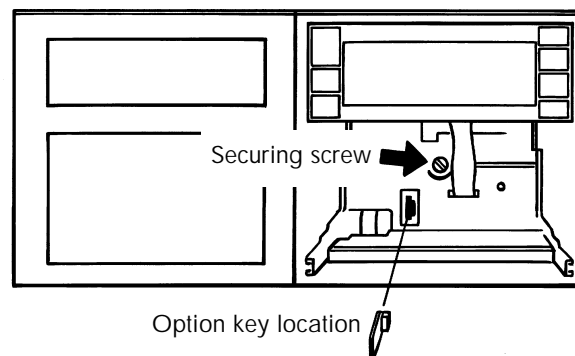

Figure 2 Option key and securing screw locations
3. With reference to figure 2, remove any Option key currently fitted, then undo the screw which secures the recorder chassis to the case.